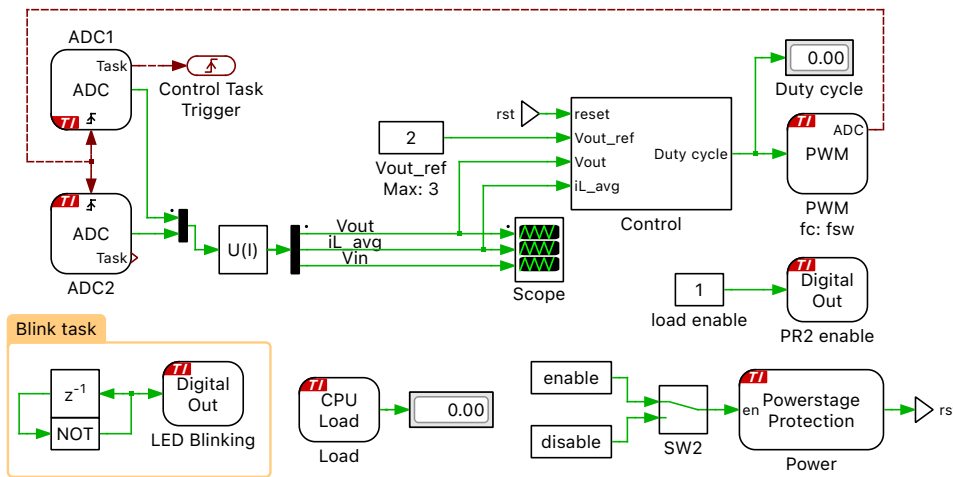
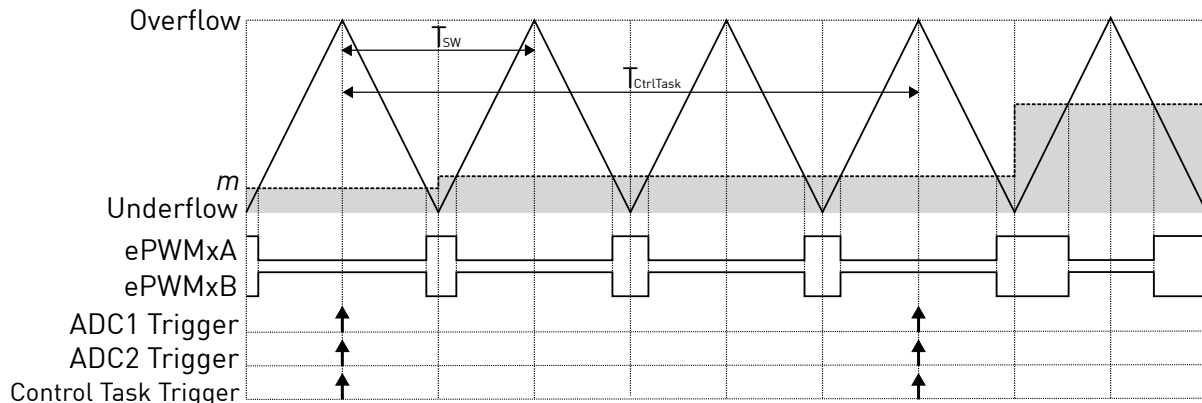

Figure 3: Controller of the BOOSTXL-BUCKCONV BoosterPack
Figure 5: PWM carrier, ADC and task interrupts
The controller subsystem is shown in Fig. 3. The key interface signals between the BOOSTXL-BUCKCONV, RT Box and the supported TI LAUNCHXL evaluation boards are described in Table 1.
- Control Task Trigger** In this model, the interrupt sequence of the embedded application is defined explicitly by connecting trigger signals between the PWM generator, the ADC, and the Control Task Trigger. Trigger signals are shown as red dashed lines as seen in Fig. 3. From the **Events** tab of the PWM block parameter window, the **ADC trigger** parameter is configured as **Overflow**, and the **ADC trigger divider** is set to 3 for the TI2837x, and 6 for the TI28004x MCU. This means that the ADC start-of-conversion is triggered after set number of **Overflow** events. Fig. 5 shows the corresponding PWM carrier, ADC and task trigger, and PWM outputs for an **ADC trigger divider** set to 3.
By default, the C2000 target support package will only update the ePWM duty cycle register on PWM underflow and overflow events to prevent data corruption. In Fig. 5, note the delay between